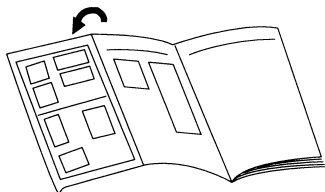

Fig. 5 Remote Control Unit
- 1 Press the CLOCK ADJUST button (Fig. 5 35).**
- 2 Use the TIMER SET (+ / -) buttons (Fig. 5 28) to adjust the clock to the current time.**
- 3 Press the CLOCK ADJUST button (Fig. 5 35) again.**
- 1 Press the START/STOP button (Fig.5 ㉓).**
- 2 Press the MASTER CONTROL button (Fig.5 ㉒) to select the desired mode.**
Press the SET TEMP. button (Fig. 5 ㉔).
Press the FAN CONTROL button (Fig. 5 ㉕).